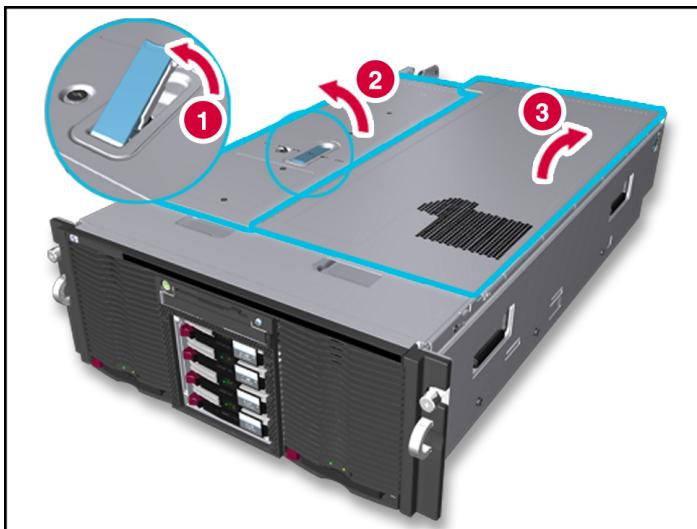

Figure 3-2: Opening the top access panels
2. Unlock the top latch security screw and raise the latch (1), as shown in Figure 3-2. Hold down the top right access panel and lift the top left access panel (2). Then lift the top right access panel (3).
6. Open the top access panels as shown in Figure 3-2